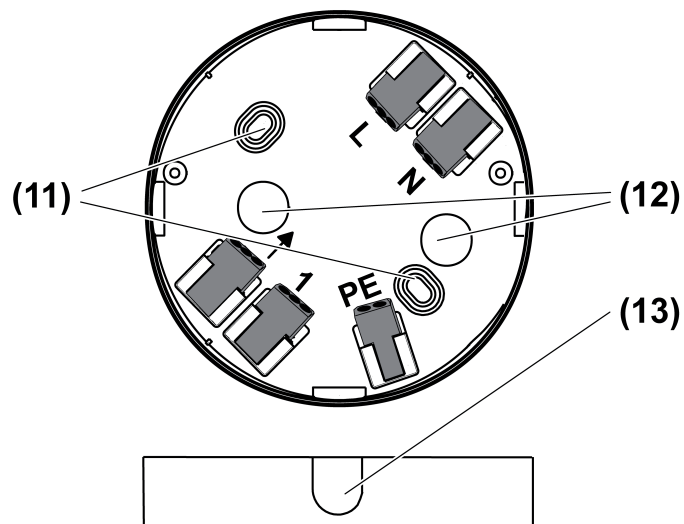

Figure 8: Connection box
- (11) Fastening holes
- (12) Cable entry, surface-mounted
- (13) Thin points for optional cable entries
- For an additional flush-mounted cable entry or surface-mounted cable entry, break out the appropriate thin point (13) (figure 8).
- Fastening the connection box (1) through holes (11) (figure 8).